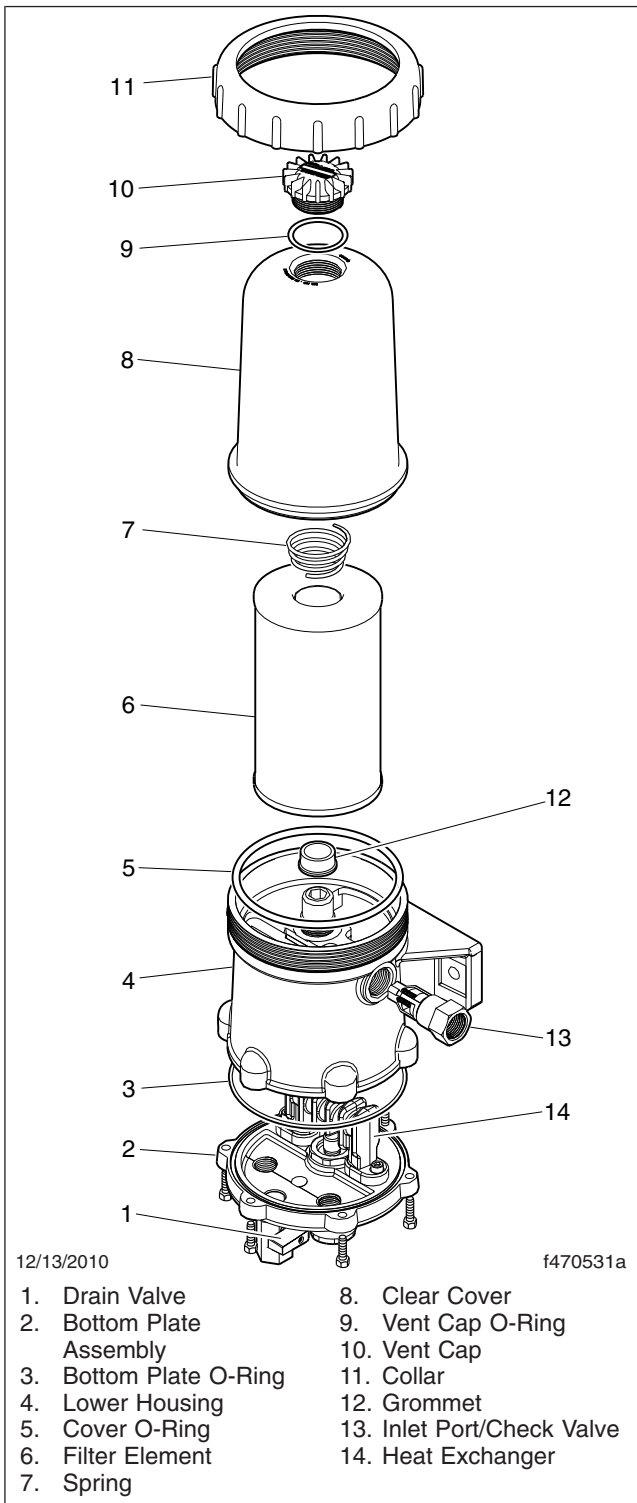

Fig. 4, DAVCO Fuel Pro 382
6. Remove the filter, cover O-ring, and vent cap O-ring. Dispose of them in an environmentally acceptable manner. See **Fig. 4**, **Fig. 5**, or **Fig. 6**.